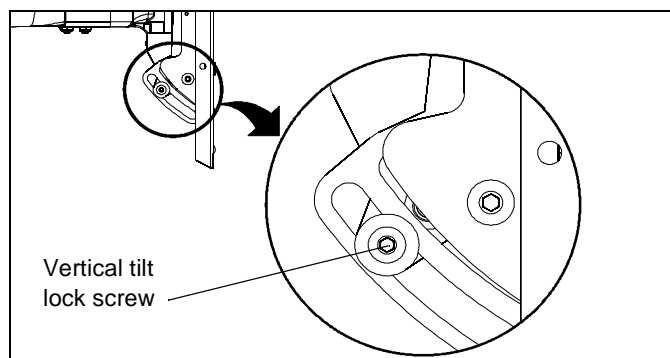

Figure 10
3. To lock the mount at the desired vertical tilt, tighten the vertical tilt lock screw. (See Figure 10)